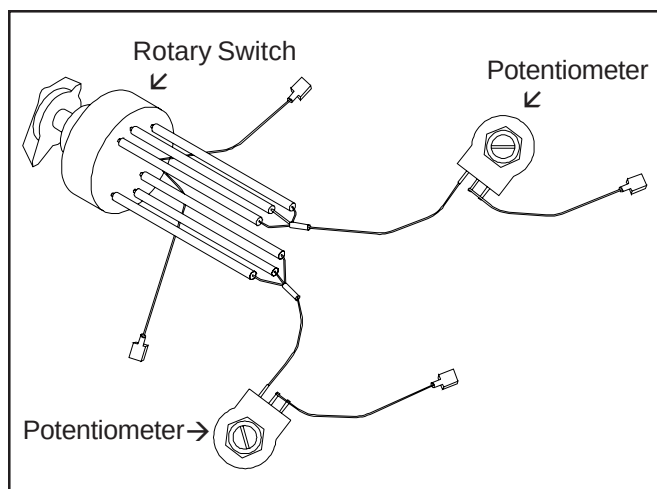

Fig. 8 - Drink Selector Switch
6. Remove the retaining nuts from the selector switch and the two potentiometers (Fig.8). Then remove the complete assembly.